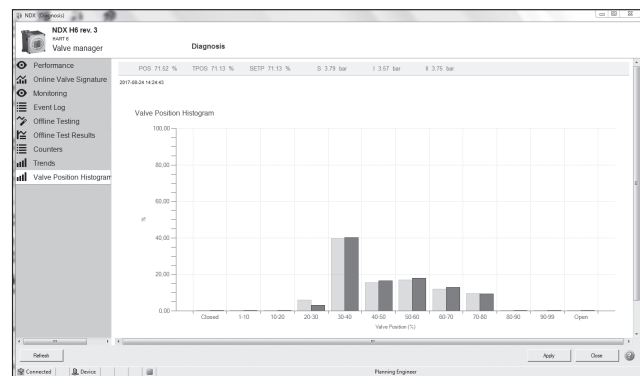

Fig. 80.
- Pull out the prestage carefully. It is recommended to use pliers to grab the grooves on the sides of the prestage. Be careful not to touch the moving parts of the prestage. (Fig. 80)